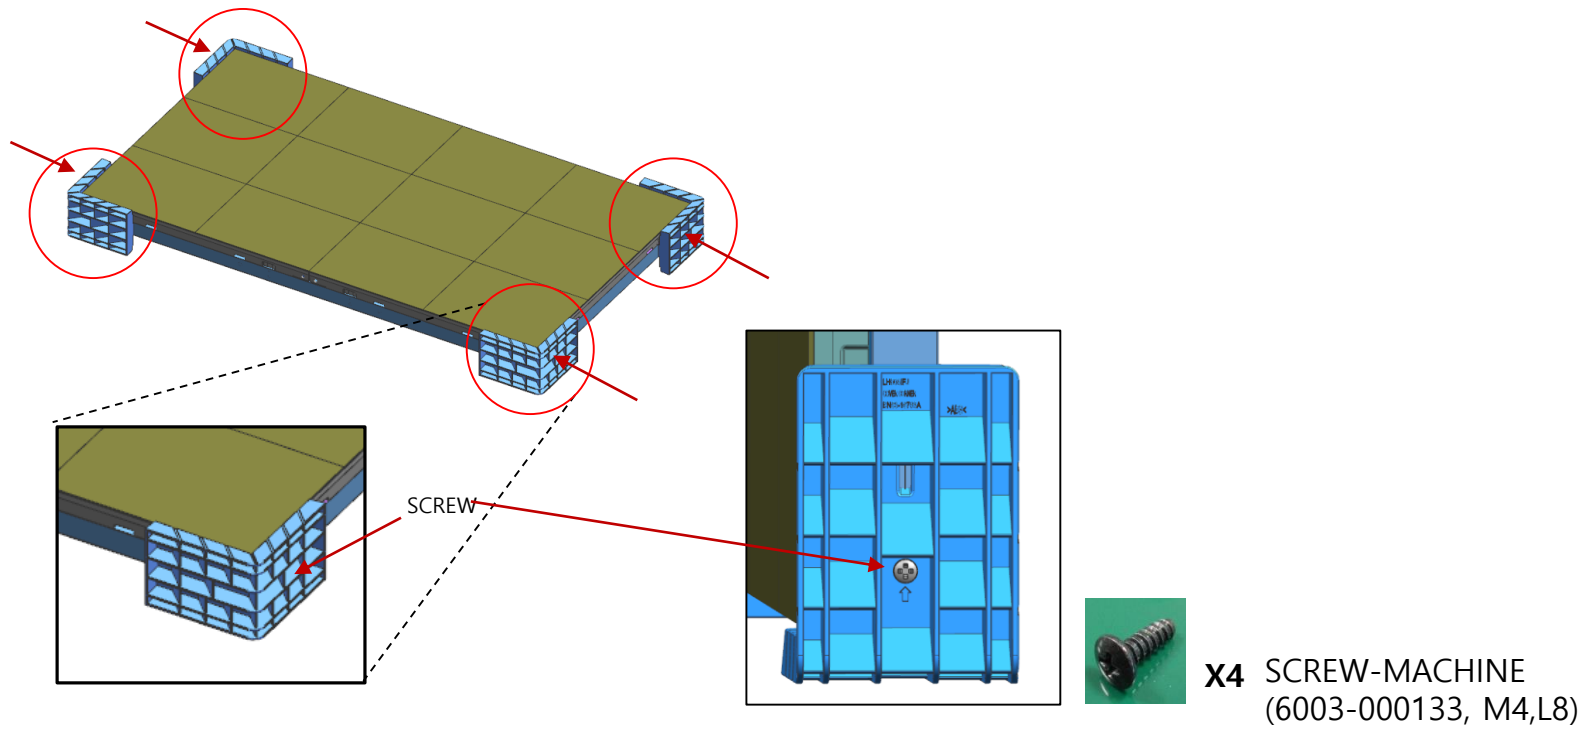

Fig.4 Cover Corner Removal
⑥ Unfasten the 4 screws on the Cover Corner area (Fig.4)